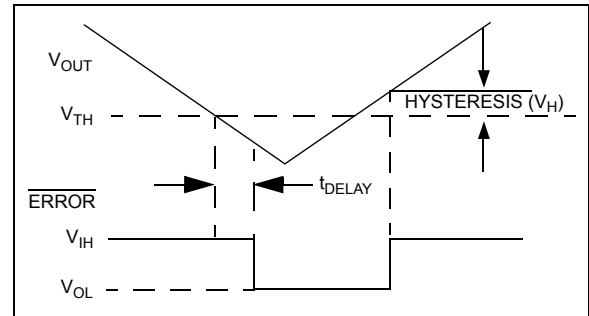

FIGURE 4-2: Error Output Operation.
$\overline{ERROR}$ is driven low whenever V_{OUT} falls out of regulation by more than -5% (typical). This condition may be caused by low input voltage, output current limiting or thermal limiting. The $\overline{ERROR}$ threshold is 5% below rated V_{OUT} , regardless of the programmed output voltage value (e.g. $\overline{ERROR} = V_{OL}$ at 4.75V (typ.) for a 5.0V regulator and 2.85V (typ.) for a 3.0V regulator). $\overline{ERROR}$ output operation is shown in Figure 4-2.
- Changes to Figure 4-2.